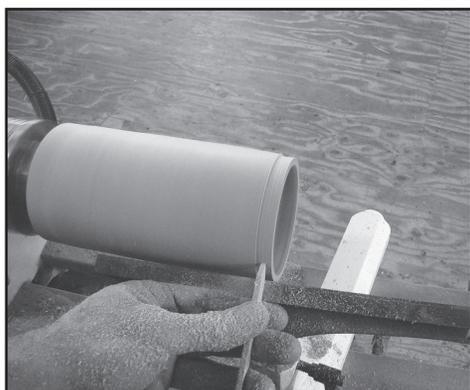

Fig. 13
6. When the insert slides all the way into the blank, make a mark  $3/8$ " down from the end of the blank. Use a parting tool cut a rabbet up to this line, making a lip that will fit under the rolled over lip on the mug insert. **Fig. 13.** Be conservative with your cuts, doing frequent fit tests. If the insert won't seat all the way in make certain it's not being restricted by the hole inside the blank before removing too much material from the rabbet.